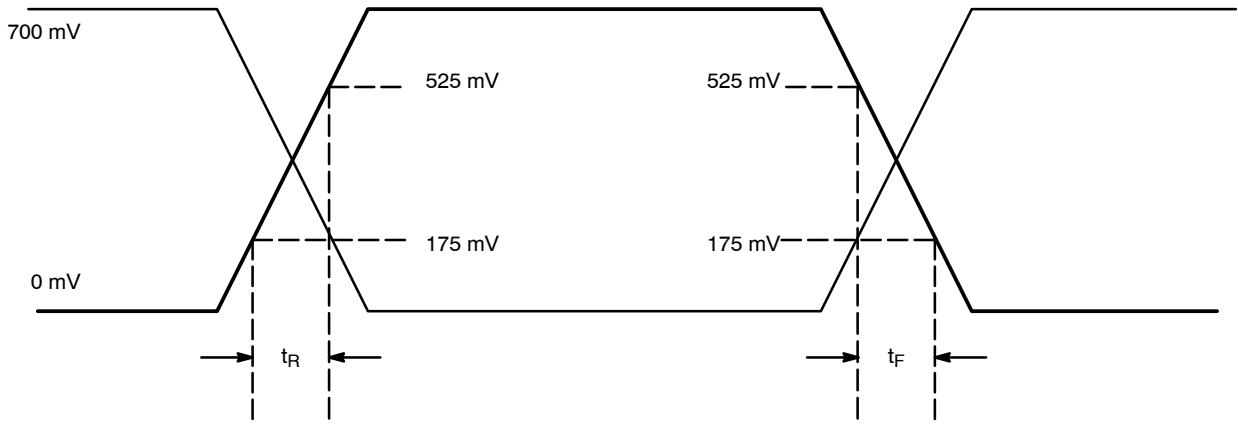

Figure 11. HCSL Output Parameter Characteristics
18. VDDXD and VDDODA power pins must be shorted to power supply voltage VDD and GNDXD and GNDODA ground pins must be shorted to power supply ground GND. Measurement taken from differential output on single-ended channel terminated with  $R_S = 33.2\ \Omega$ ,  $R_L = 50\ \Omega$ , with test load capacitance of 2 pF and current biasing resistor set at 475  $\Omega$ . See Figure 11. This parameter is guaranteed by characterization. Not tested in production.